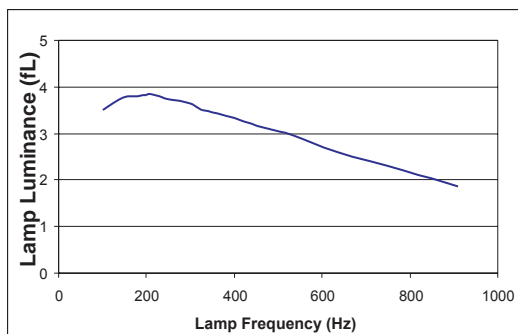

Figure 2: Typical Lamp Luminance vs. Lamp Frequency
The selection of the CLF value can also affect the brightness of the EL lamp because of its control of the lamp frequency (LF). Although input voltage and lamp size can change EL lamp frequency as well, LF mainly depends on the CLF value selected or the frequency of the input clock signal to CLF. Figure 2 shows typical brightness of a D371 circuit with respect to lamp frequency. In this example, the inductor and CHF values were kept constant while varying LF.